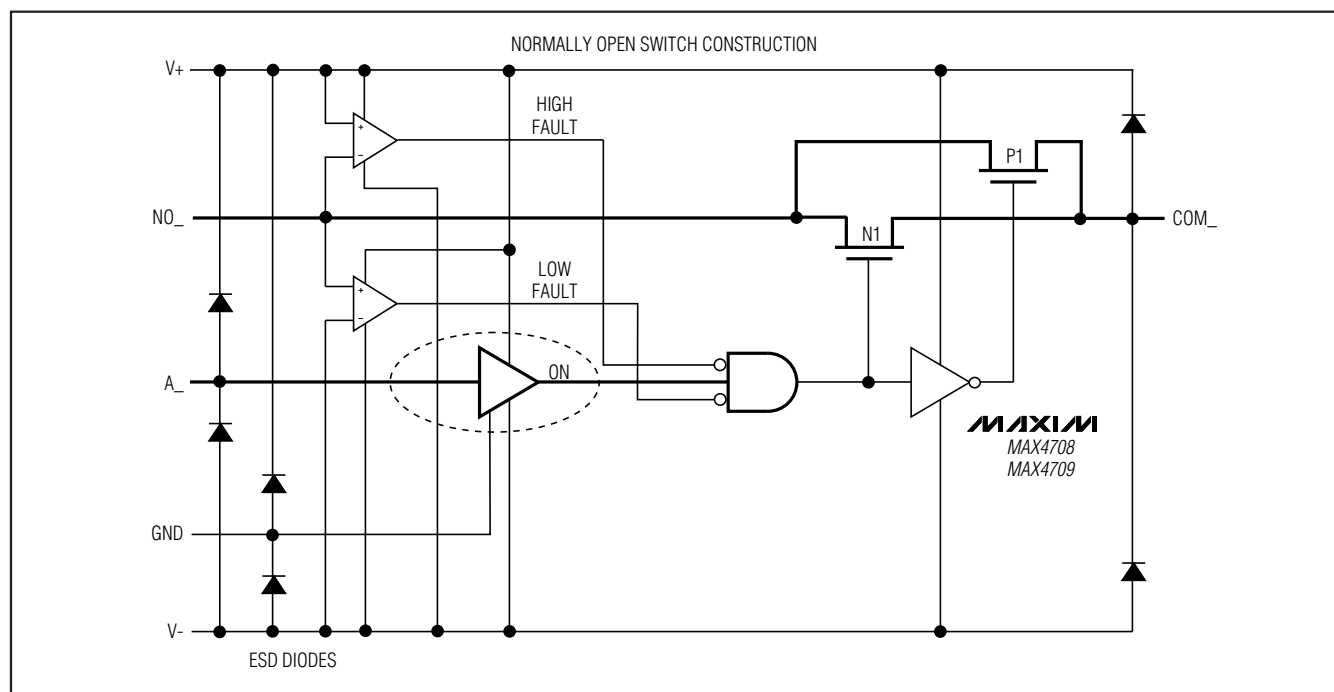

Figure 1. Functional Diagram
Figure 1 shows the internal construction of a single normally open (NO) switch, with the analog signal paths shown in bold. The parallel combination of N-channel FET N1 and P-channel FET P1 form the analog switch. During normal operation, these FETs are driven on and off simultaneously according to the control voltages on A₊. During a fault condition, both FETs turn off.
on NO₊ ranges between V_+ and V_- , the multiplexer operates normally, with FETs N1 and P1 turning on and off in response to the control signals on A₊ (Figure 1). When the switch state is on, the parallel combination of N1 and P1 forms a low-value resistor between NO₊ and COM₊ so that signals pass equally well in either direction. When the switch state is off, both NO₊ and COM₊ are high-impedance inputs.